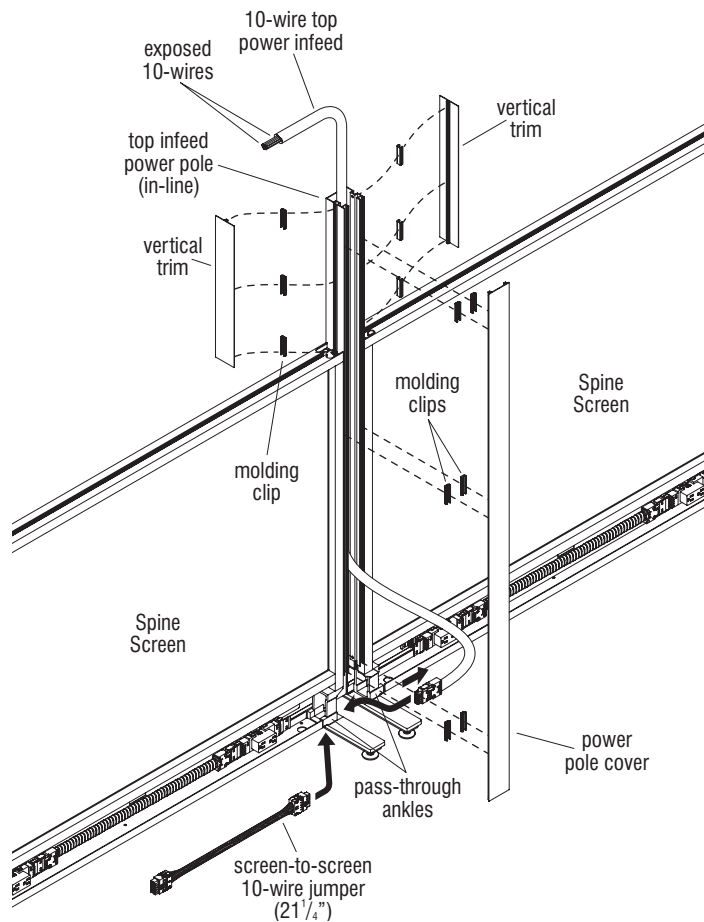

Figure 11
6. Determine the length of both vertical trim by measuring the distance from the ceiling to the top of the Spine Screen frame. Cut the vertical trim to the marked lengths (Figure 11).
7. On the rib side of the vertical trim, space molding clips evenly apart and press them onto the ribs of the vertical trim as illustrated (Figure 11 & Detail R).
8. Place the 10-wire top infeed conduit inside the power pole and route the plug end of the infeed down through the pass-through ankle and plug it into the end of the 10-wire rigid wireway (Figure 11).
9. Push the 10-wire end of the power infeed up and through the top of the power pole and into the above-ceiling area for later connection to the source power (by a certified electrician)(Figure 11).
10. Determine the length of the top infeed power pole cover by measuring the distance from the ceiling to the floor at the side of the infeed power pole. Cut the cover square to the marked length (Figure 11).
11. On the rib side of the power pole cover, space molding clips evenly apart and press them onto both ribs on the cover (Figure 11 & Detail S).
12. Position the power pole cover with molding clips up against the opening side of the end-of-run top infeed power pole. Using a firm hand, press on the trim at the molding clip locations to snap into the power pole cover channel (Figure 11 & Detail S).